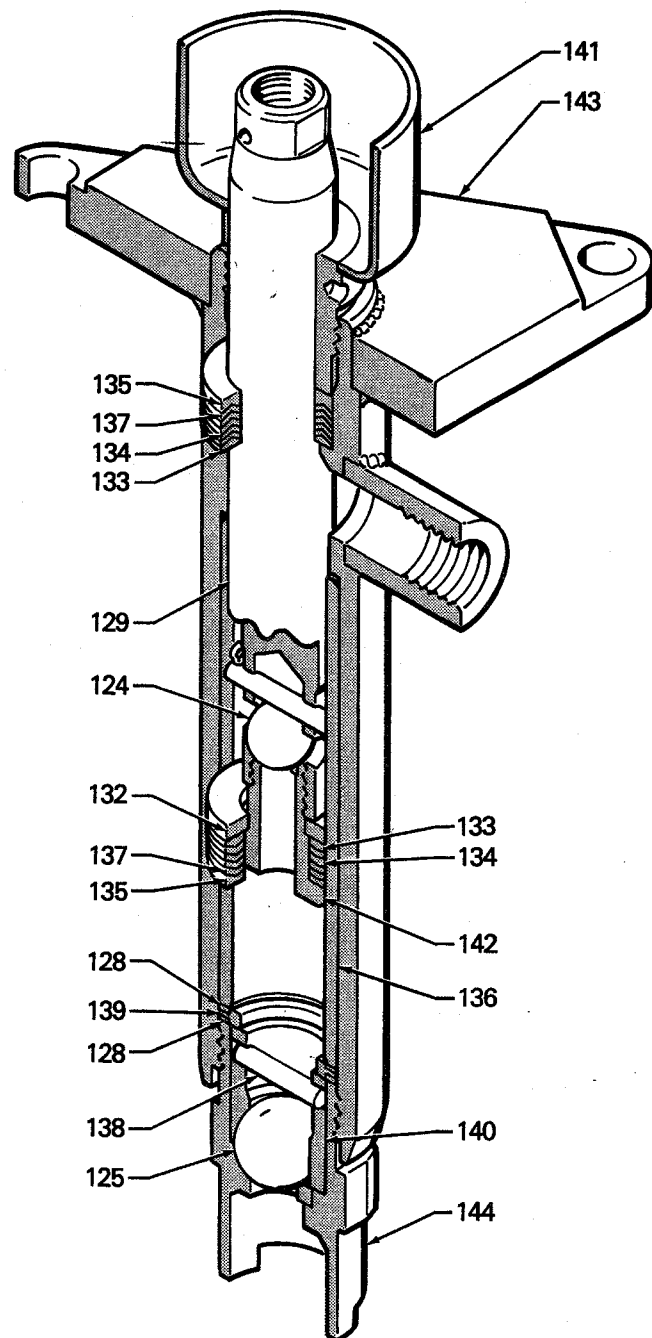

Fig 10
Screw the intake valve (144) out of the pump housing (143). If the valve is stuck in the housing, squirt penetrating oil around the threads and *gently* tap around the housing with a hammer to loosen it. See Fig 10.
Remove the pin (138), the gaskets (128), the valve stop (139), the ball (125) and the ball guide (140). See Fig 10. Clean all the parts and inspect them for wear or damage. Reassemble the valve with new parts, if necessary, and screw it into the pump housing.
Screw the intake valve (144) out of the pump housing (143). Unscrew the coupling nut (94). Screw the locknut (100) up and remove the lower cotter pin (99). Unscrew the displacement rod (129) from the connecting rod (97). Loosen the packing nut (141) and push the displacement rod down and out of the housing. Secure the rod in a vise and screw the piston (142) out of the housing. Remove the ball (124), the retainer (132) the glands (133, 135), and the packings (134, 137). Refer to Fig 10.
Screw the intake valve (144) out of the housing and remove the piston and rod as explained above. Then screw the packing nut (141) out of the housing (143) and remove the packings (134,137) and glands (133,134) from the cavity. See Fig 10. Lubricate the inside of the new packings with a grease that is compatible to the material being pumped. Always use new glands with new packings.